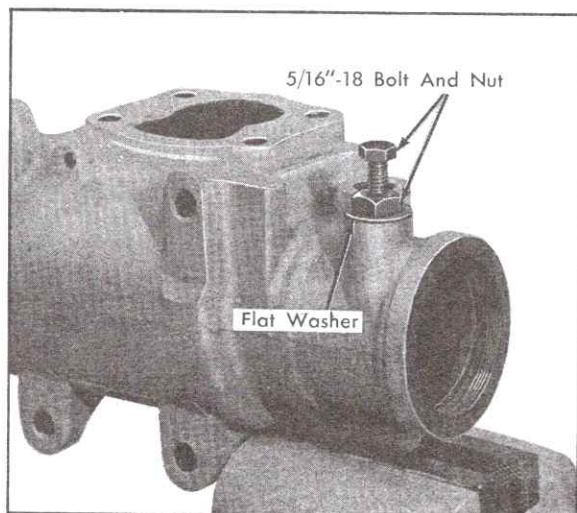

Fig. 9-39 Removing Hose Connector Seat With Bolt
4. Thread a 5/16-18 bolt with a nut and flat washer into tapped hole, Fig. 9-39.